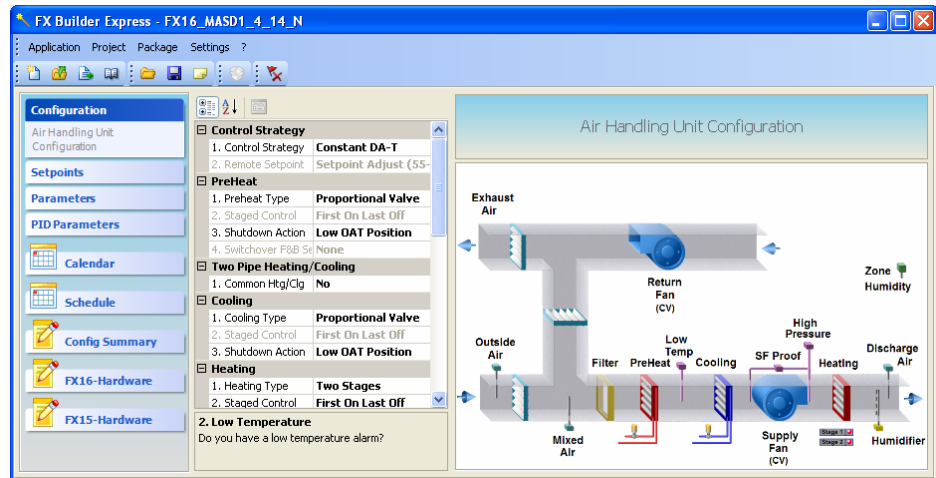

Figure 19: Configuration Tab
1. In FX Builder Express, select a standard application and select Configuration. Configuration settings appear (Figure 19).